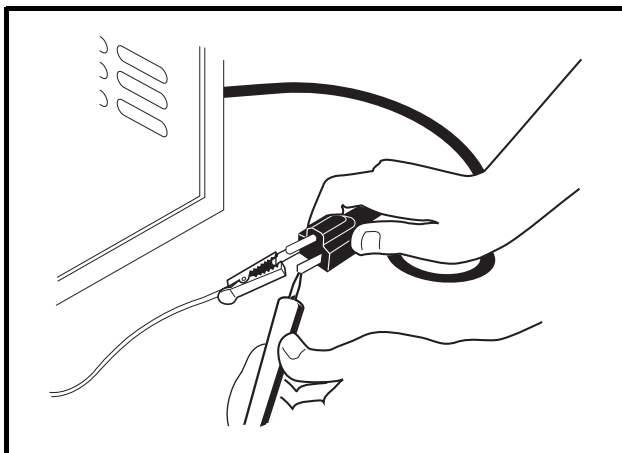

Figure 8-9 AC Cord Test
- 5.3. With relay bypassed, there should be continuity across the AC cord blades (Figure 8-9, Page 8-15).